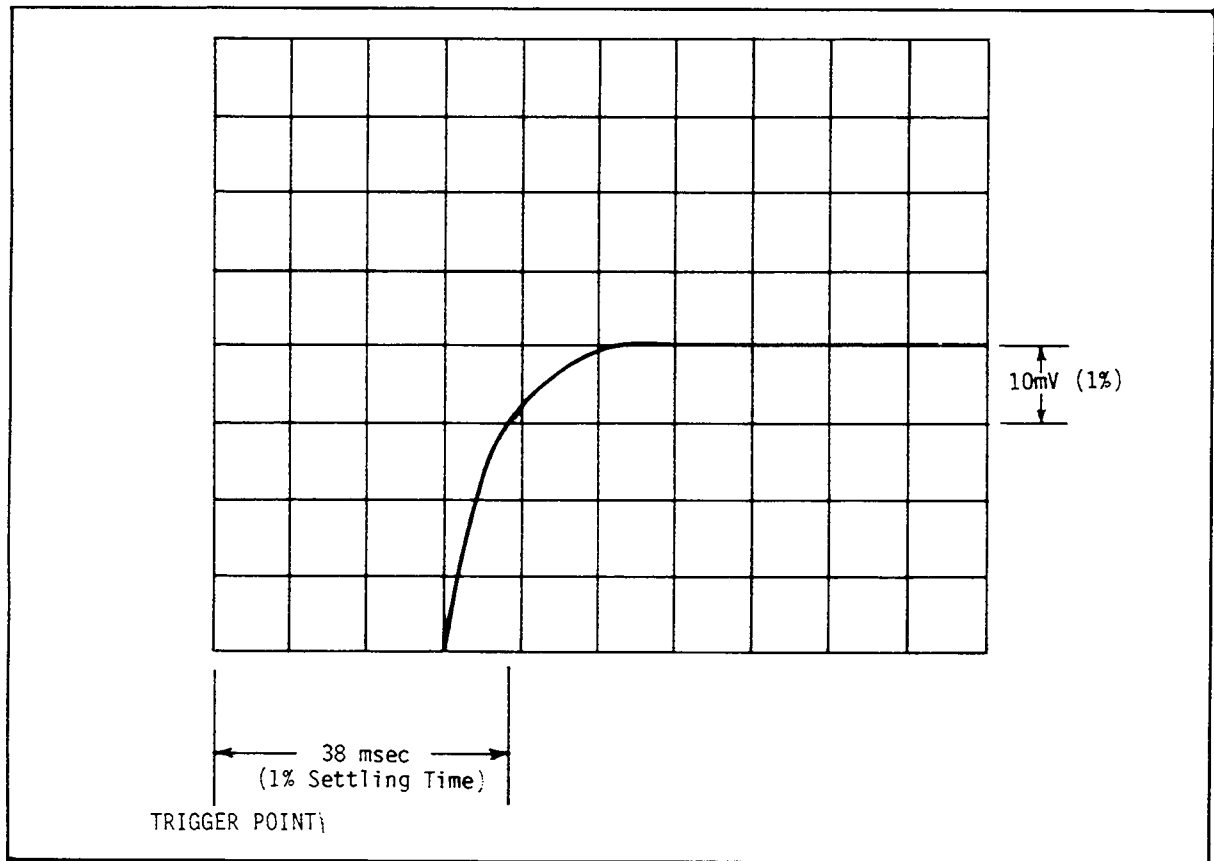

FIGURE 3-3. Typical Scope Display for 1% Settling Time on the 10^{-8}A Range
g. Release the ZERO CHECK and verify that the 1% Settling Time on the scope is ≤ 40 ms (see Figure 3-3).